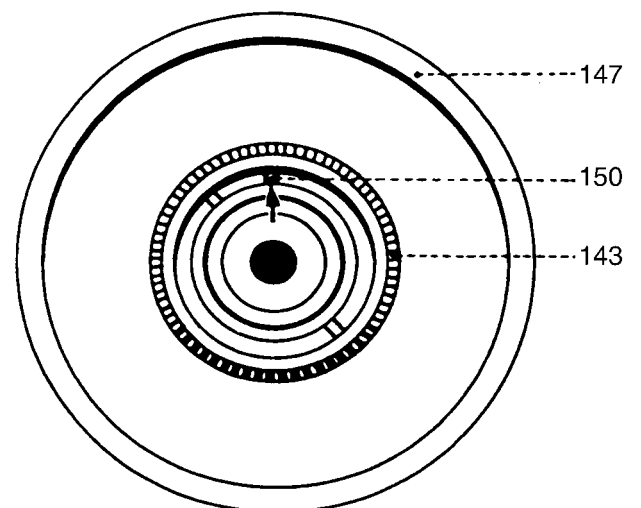

Fig. 99
- Push handwheel release disk 143 with its square mark 150 facing up into the handwheel (fig. 99).